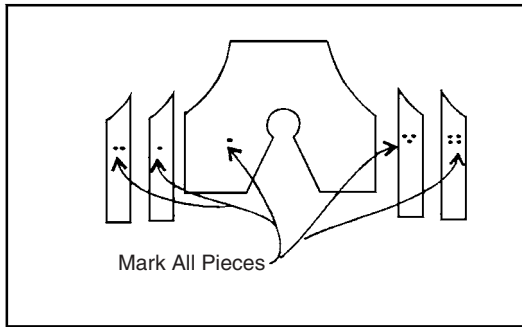

Figure 23.7 Cut out and mark the coverplate.
9. Cut out the coverplate and the ward plate from 16-gauge sheet metal. The coverplate and ward plate spacers are $1\frac{1}{4}$ -inch lengths of $\frac{3}{8}$ -inch square bar. Grind the top edge of each spacer to conform to the top edge of the coverplate. Mark all pieces as shown in Fig. 23.7.